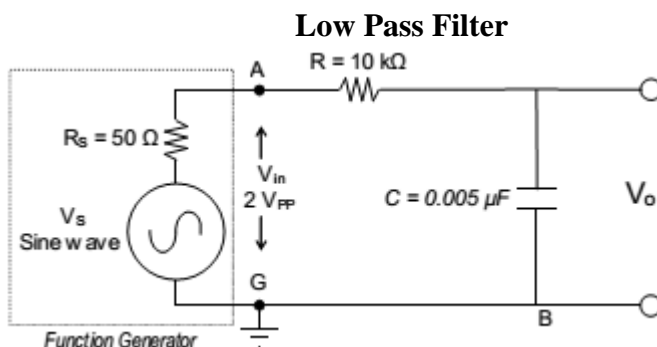

Figure 2
2. Using the measured components, set up the circuit as shown in Figure 2. Use the function generator FGEN for the supply voltage.